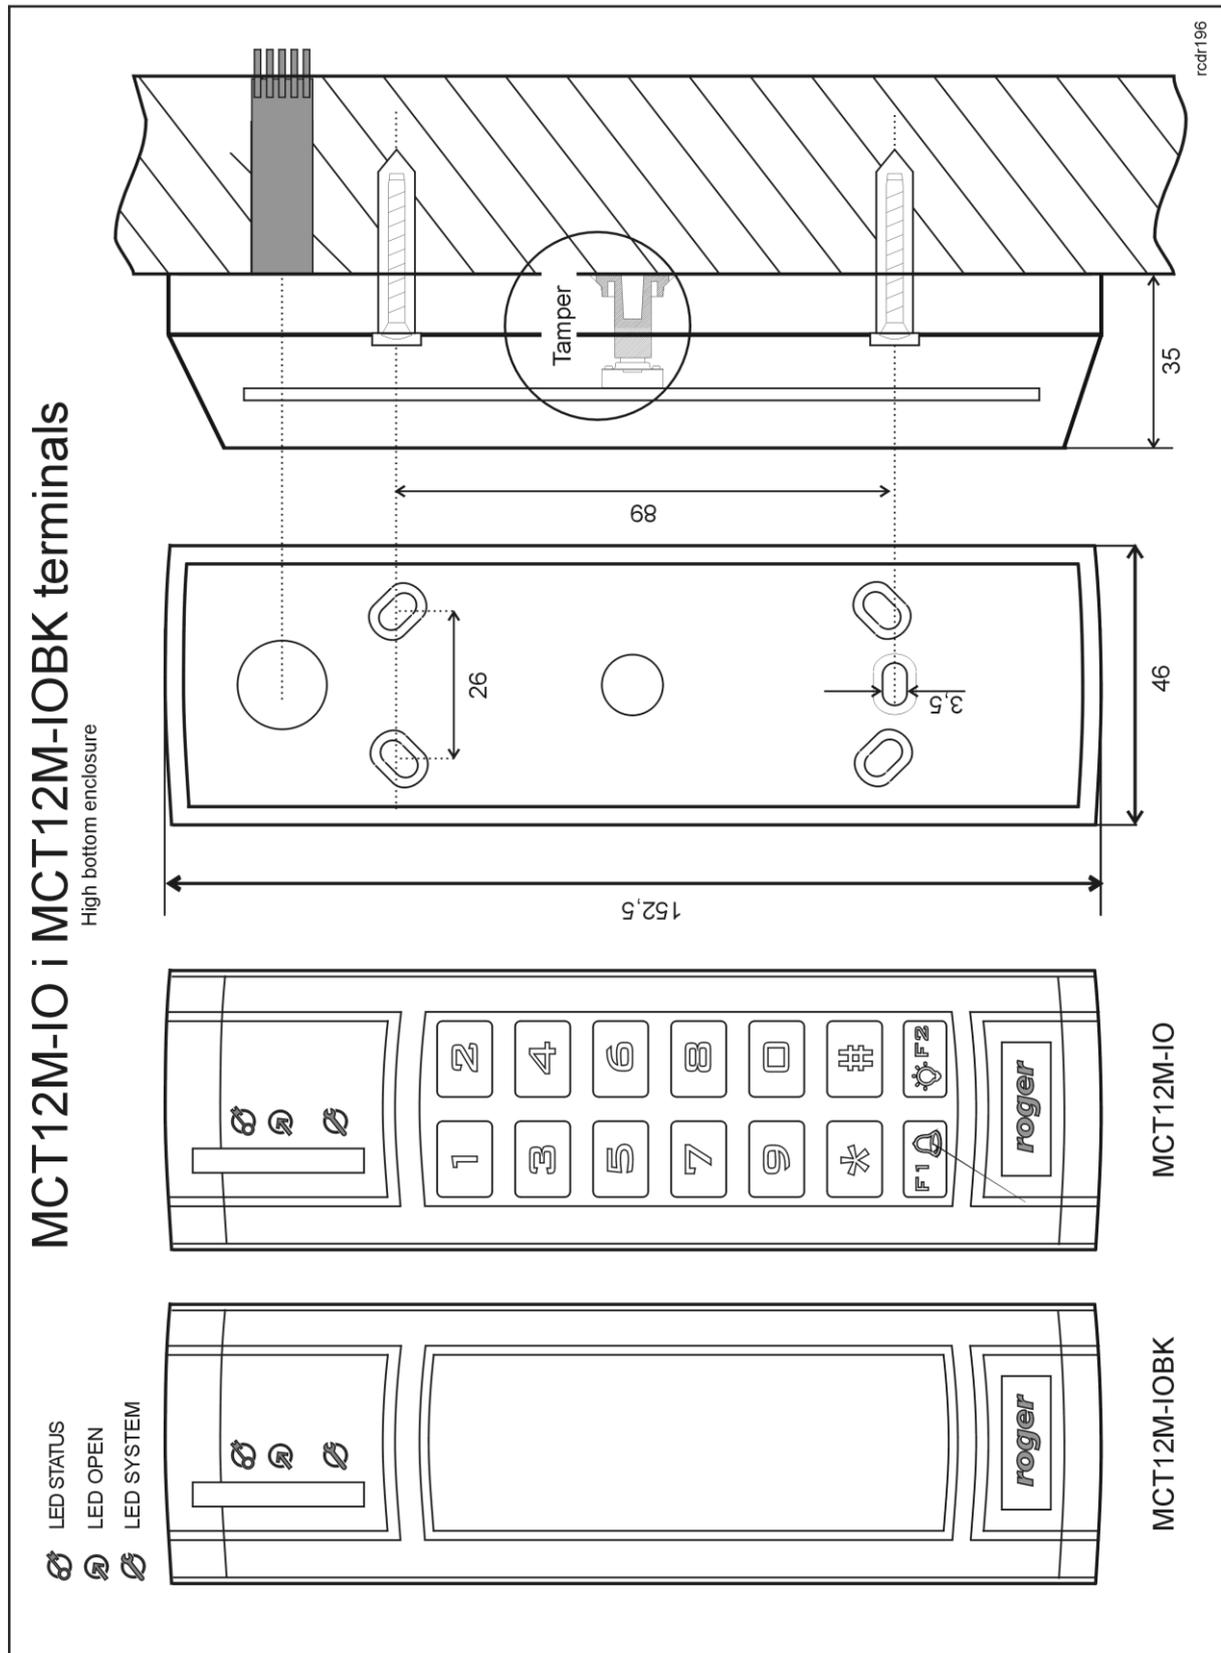

Fig. 4 Reader view, high bottom enclosure.
2. The rear panel should be mounted with use of delivered screws with orientation shown on Fig. 4 so that tamper lever leans on the surface and firmly presses the tamper switch.